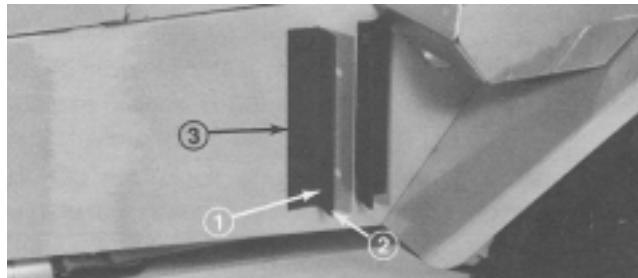

Figure 2
2. Mount and drill (8) 13/32" dia. holes at locations shown on template.
3. Using appropriate brackets and mounting holes, position brackets as shown in figure 2.
**Note:** Wide brackets are used for 62" decks and narrow brackets, shown in figure 2, are for 52" decks.
4. Mount brackets to frame with (1) 3/8-16 x 2" lg. capscrew, (7) 3/8-16 x 1-1/4" lg. capscrews, (8) 5/16 washers and (8) locknuts. Use 2" lg. capscrew to secure bottom of rear bracket.